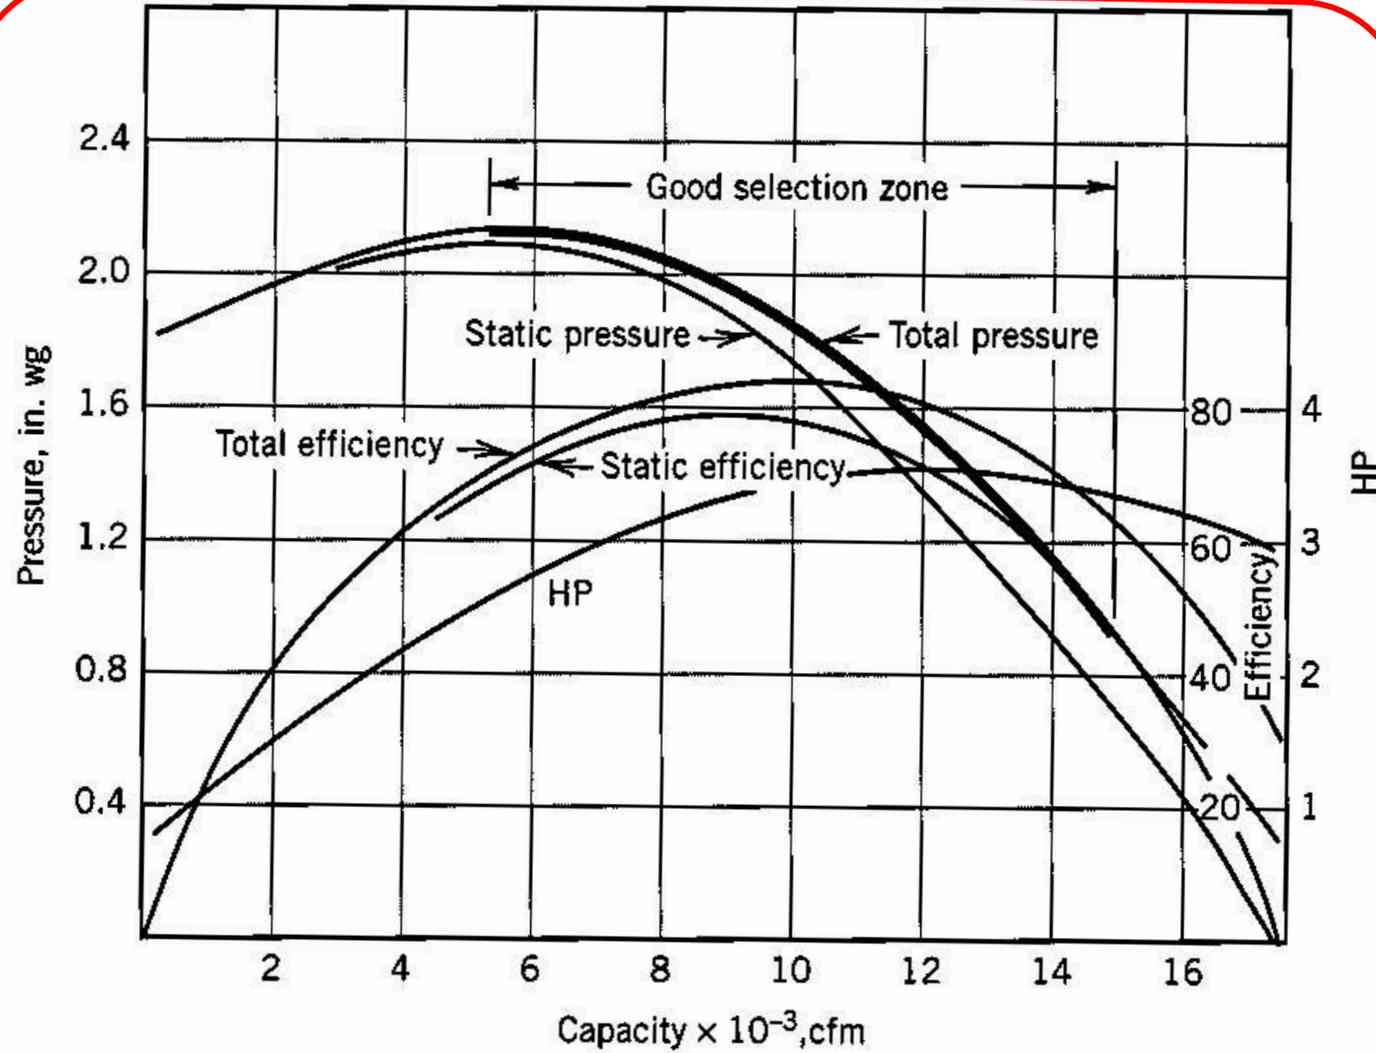

Figure 24-6 Conventional curves for backward-curved blade fan. (Reprinted by permission of ASHRAE Journal, Vol. 14, Part I, No. 1, 1972.)
- ❑ The performance curve is stable, and this type of fan has a load-limiting horsepower characteristic (Figure 24-6).
- ❑ Comment on the suitability of using the fan described by Figure 24-6 to move 15,000 cfm at 3.5 in. wg total pressure. Estimate the speed and power requirement
- ✓ Examination of Fig. 24-6 shows that the fan would be quite suitable.